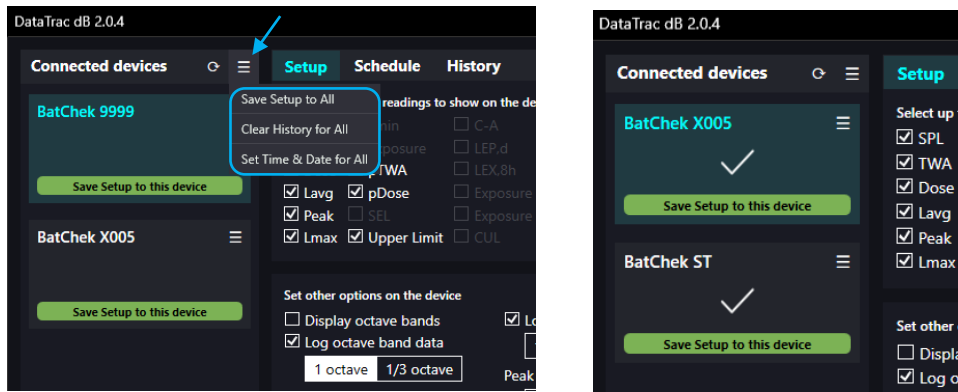

Figure 4. Connected devices Menu Options and Application (Example from Setup)
When multiple devices are connected in the 5-unit charging dock, use the Connected devices menu  to apply the following actions under any operation (Setup, Schedule, or History) to all connected devices at one time (see *Figure 4*):
2. Click on the Connected devices menu icon and select the desired option (*Figure 4 shows the menu options for Setup*). A check mark will appear briefly under each device name to indicate that the selected option has been applied to it.
7. If applicable, set **CUL Threshold** and **CUL Interval** values. CUL (Continuous Upper Limit) equals the number of times the set threshold was exceeded continuously for the set interval. Any continuous event lasting for the set interval counts as one, so using the values set in Figure 4 (117 dB and 30 sec) as an example, CUL = 1 for an event continuously lasting for more than 30 seconds but less than 59 seconds, 2 for an event lasting for 60 to 89 seconds, and so on. Each subsequent continuous event lasting for the set interval is added to the overall count.